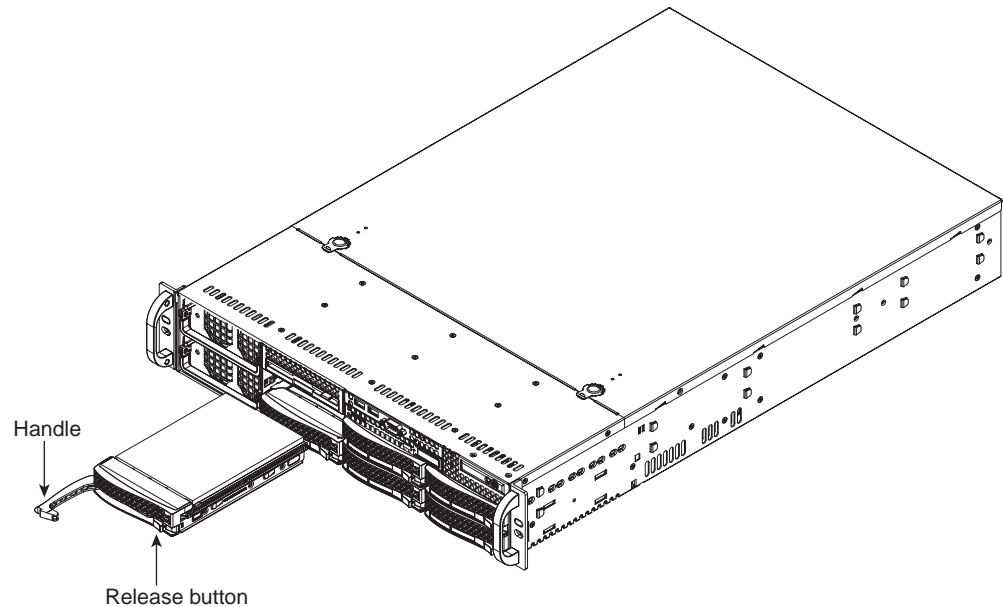

Figure 6-3 Removing a Disk Drive Carrier
2. Swing the handle fully out and use it to pull the drive carrier straight out (see Figure 6-3).